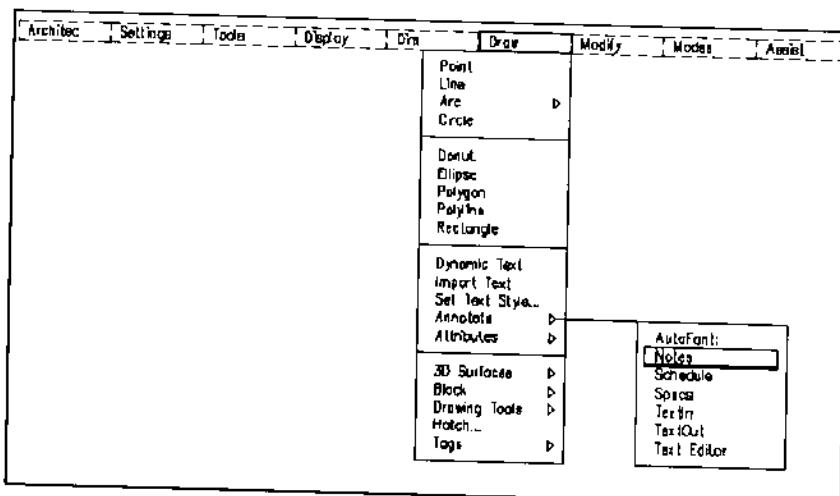

Figure 2.
1. The Annotate submenu under the Draw pulldown menu as shown in Figure 2 includes a text editor as well as tools for creating notes, schedules, specifications.